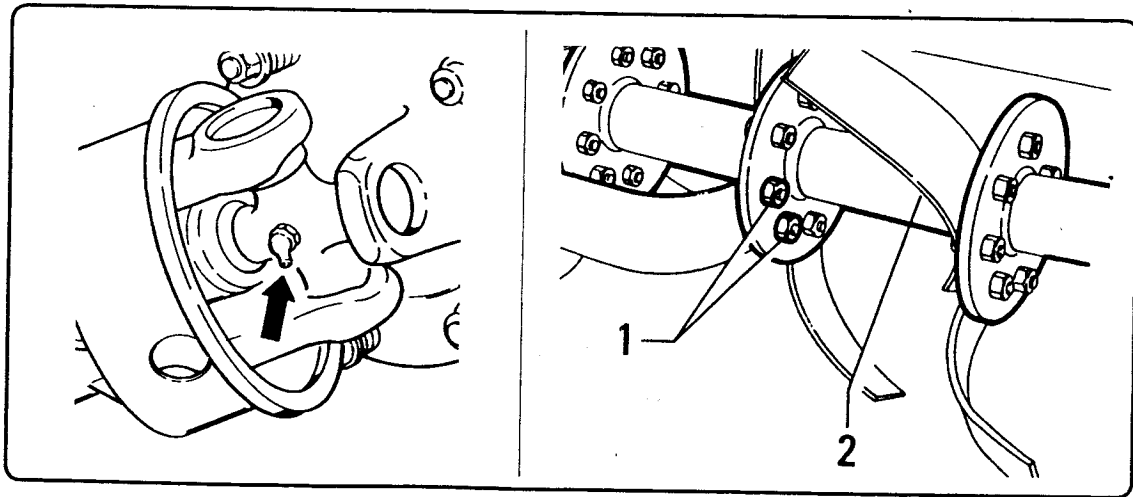

fig. 7.4.2
- Make sure that the driveline is in a perfect condition and grease the spiders(fig. 7.4.2).
- Check that the bolts "1" that lock the blades to rotor "2"(fig.7.4.2) are well tightened.